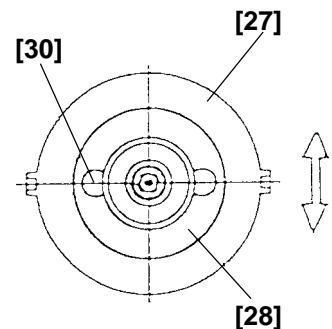

Fig. 33
(b) Planet gear (Fig. 33)
(c) Power supply unit (Fig. 33)
(e) Mount the Spring [4] to the Pushing Button [3] (Fig. 33).
(f) Mount the Wrench Holder [7] to Housing (A) [2] (Fig. 33).